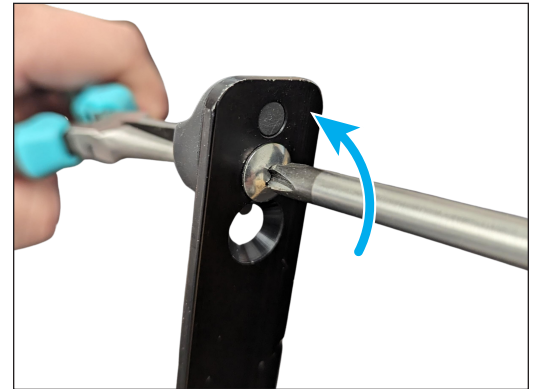

Fig. 2
4. Using the Phillips head screwdriver, turn the screw counter-clockwise to loosen. (Fig. 2)